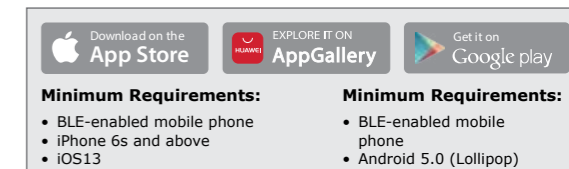

FIGURE 27
1. Scan the QR Code below Figure 27.